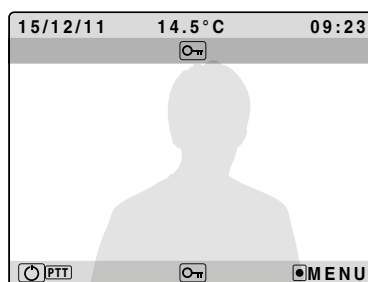

Fig. 1B
- To open the door without speech to the visitor press the button  **Fig.1B**;